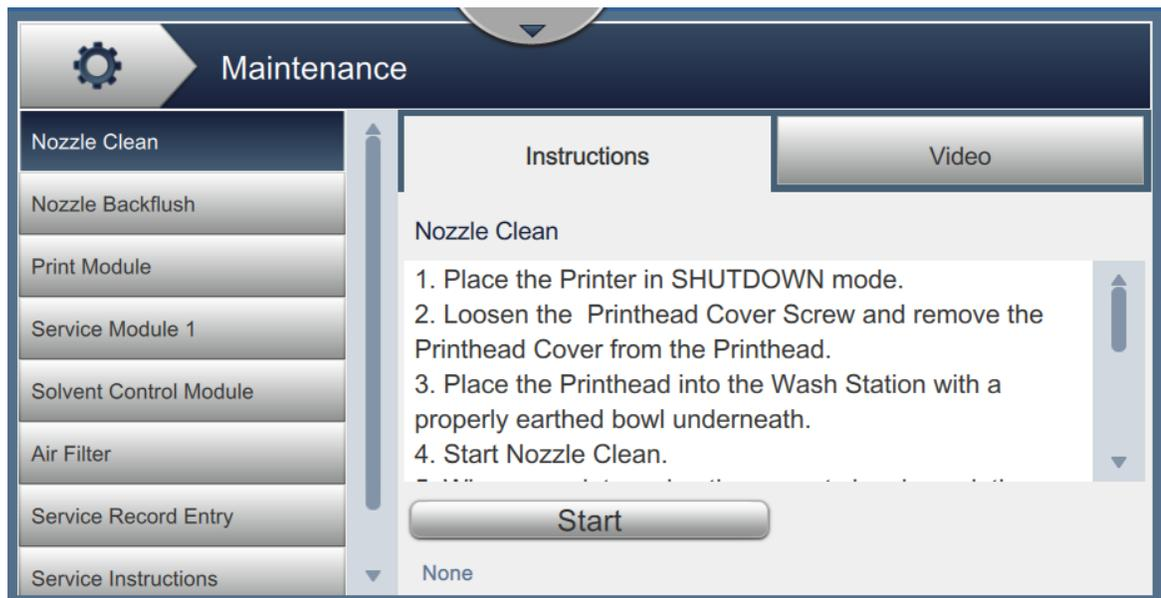

Figure 9-8: Nozzle Self-Clean
5. Touch the Start button (Figure 9-8) to start the Nozzle Clean.